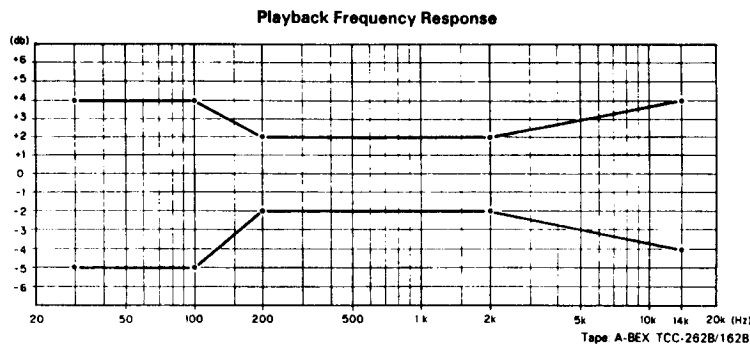
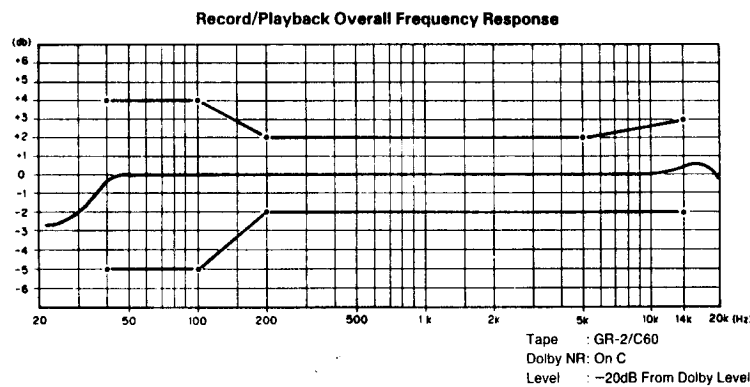

Fig. 4-1
Fig. 4-2
| 1 | PLAYBACK GAIN | A-BEX TCC-130 | Fig. 4-1 | PLAYBACK | RT-101 (L) RT-101 (R) | Adjust the LINEOUT output to 775 mV (0 dBs). |
| 2 | P.B. Frequency | A-BEX TCC-162B, 262B | Fig. 4-1 | PLAYBACK | | Make sure the playback characteristics conform to Figure 4-2. |
| 3 | REC/P.B. Frequency | GR-2/C60 1 kHz, -40 dB 10 kHz, -40 dB | Fig. 4-2 | REC. PLAY ↓ PLAYBACK | RT-105 (L) RT-205 (R) | Record 1 kHz and 10 kHz alternately. Adjust each volume so the 10 kHz playback output is 0.5 dB in relation to the 1 kHz playback output. |
| 4 | REC GAIN | GR-2/C60 1 kHz, -30 dB | Fig. 4-2 | REC. PLAY ↓ PLAYBACK | RT-103 (L) RT-203 (R) | Adjust each volume to the playback output is the same as when the recording monitor is output. |